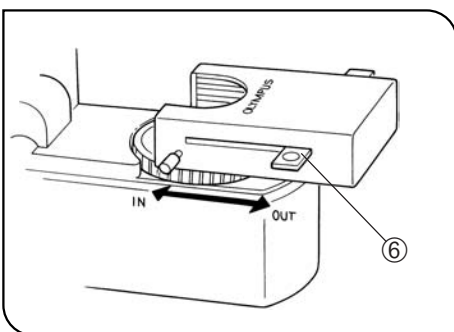

Fig. 10
**Using the Filter Cassette (Fig. 10)**